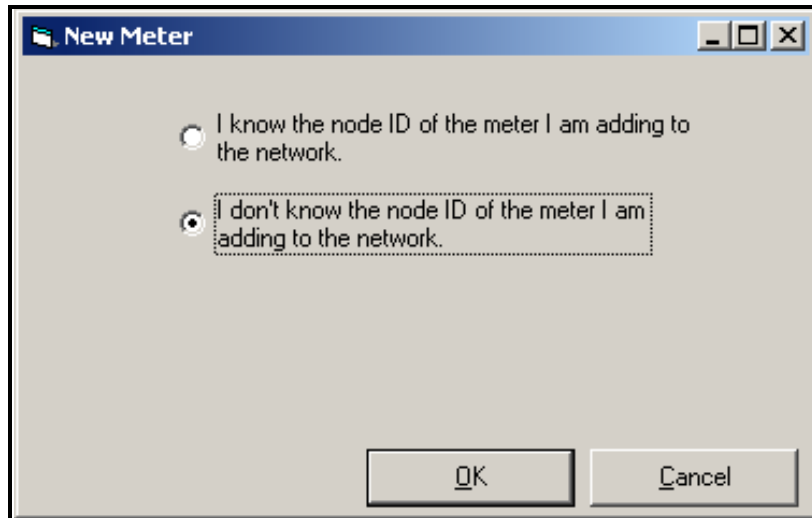

Figure 41: Instrument Node ID Disacknowledgement
If the node ID is not known, select "I don't know the node ID of the meter I am adding to the network" and then click on the OK button (see Figure 41 below).
**Note:** The network referred to in Figure 41 below is the network over which the new meter and the computer are communicating.